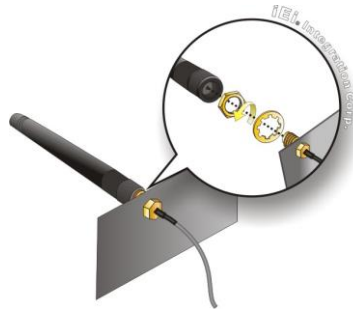

Figure 3-10: Securing SMA Connector and External Antenna Installation
Step 9: Install the external antenna (Figure 3-10).